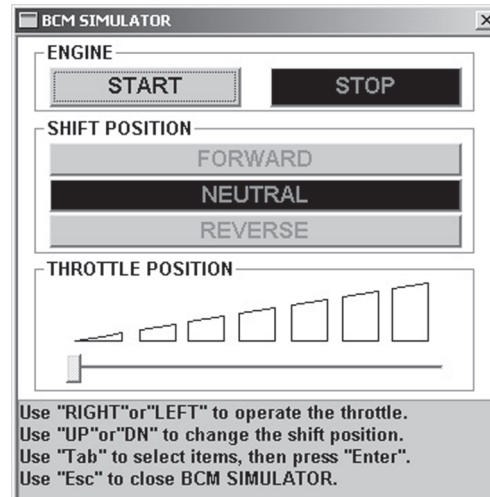

Fig.66
3. In the BCM SIMULATOR window, check that "Neutral" is selected in the SHIFT POSITION and the slide bar in the throttle opening is set to the minimum position. (Fig.66)